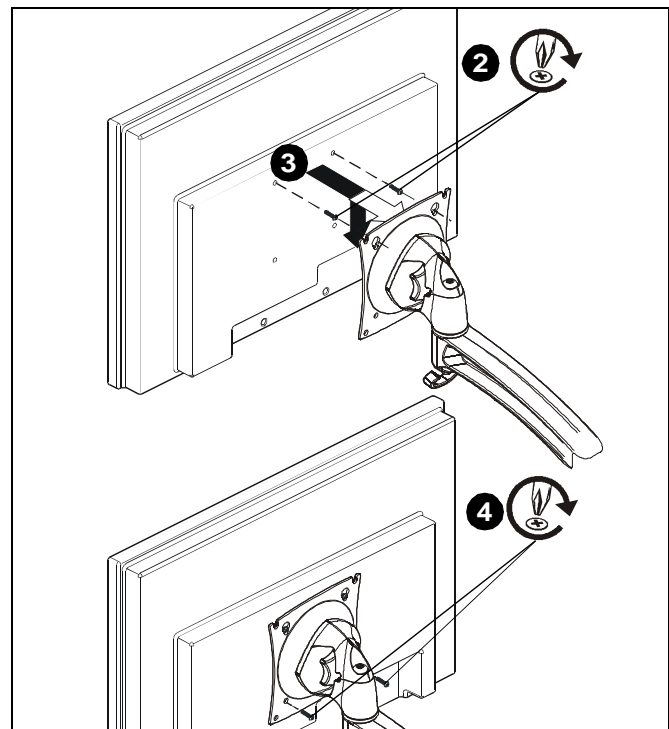

Figure 2
1. Ensure faceplate is able to swivel and tilt easily, yet still be tight enough to hold display in desired position. Adjust as required before proceeding. See "ADJUSTMENT" for detail. (See Figure 2)
2. Using Phillips screwdriver, carefully install two M4x14mm screws (B) into the *upper* mounting holes on the display. Thread screws completely into display, then back out 3 complete turns. (See Figure 2)
3. Pick up and align display so that screws (B) (installed on the back of the display in the previous step) fit into the mounting holes on the faceplate. Rotate the bracket as required. Lower the display firmly into place. (See Figure 2)
4. Using Phillips screwdriver, install two remaining M4x14mm Phillips screws (B) through the *lower* mounting holes in faceplate into the display. (See Figure 2)
5. Tighten all four screws (B). Do not overtighten!